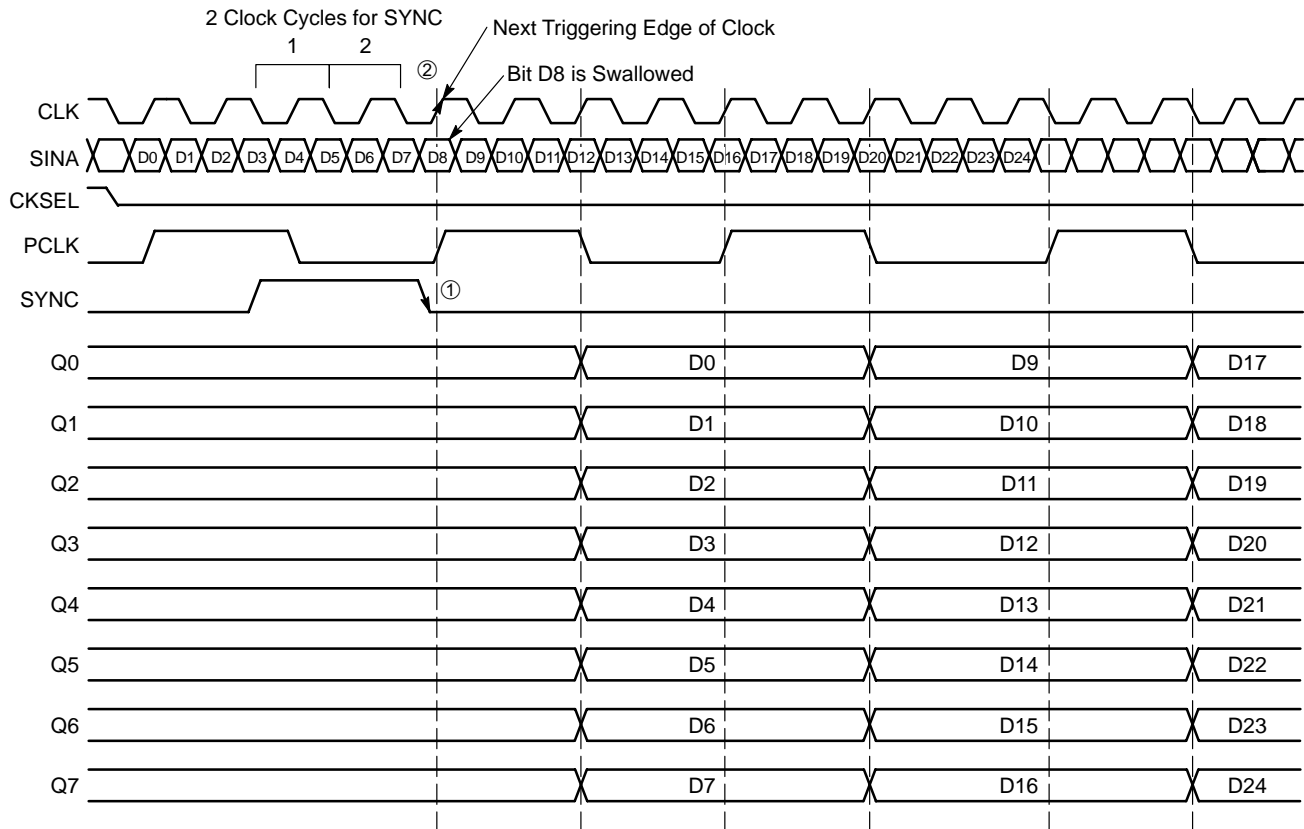
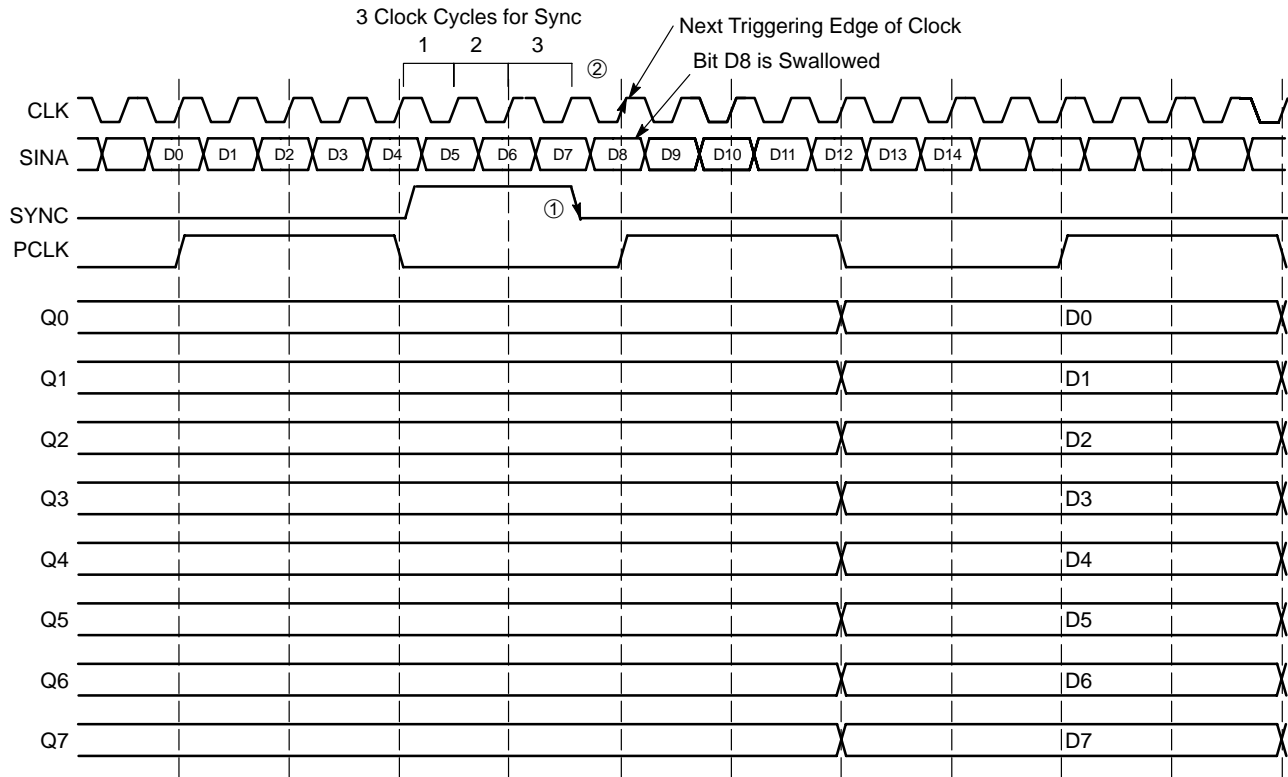

Figure 9. Timing Diagram A. 1:8 Serial to Parallel Conversion with SYNC Pulse at CKSEL LOW
Figure 10. Timing Diagram A. 1:8 Serial to Parallel Conversion with SYNC Pulse at CKSEL HIGH
To allow the user to synchronize the output byte data correctly, the start bit for conversion can be moved using the SYNC input pin (pin 2). Asynchronously asserting the SYNC pin will force the internal clock to swallow a clock pulse, effectively shifting a bit from the Q_n to the Q_{n-1} output as shown in Figure 9 and Figure 10. For CKSEL LOW, a single pulse applied asynchronously for two consecutive
clock cycles shifts the start bit for conversion from Q_n to Q_{n-1} . The bit is swallowed following the two clock cycle pulse width of SYNC^① on the next triggering edge of clock^② (either on the rising or the falling edge of the clock). Each additional shift requires an additional pulse to be applied to the SYNC pin. (See Figure 9)
triggering edge of clock^② (on the rising edge of the clock only). Each additional shift requires an additional pulse to be applied to the SYNC pin. (See Figure 10)